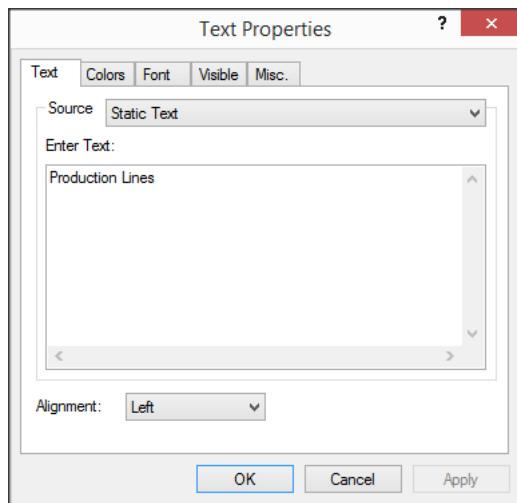

Figure 11.17: The **Text** tab of the **Text Properties** dialog box
- ▶ enter ‘Production Lines’ (without quotes) in the edit field (see also Figure 11.17), and